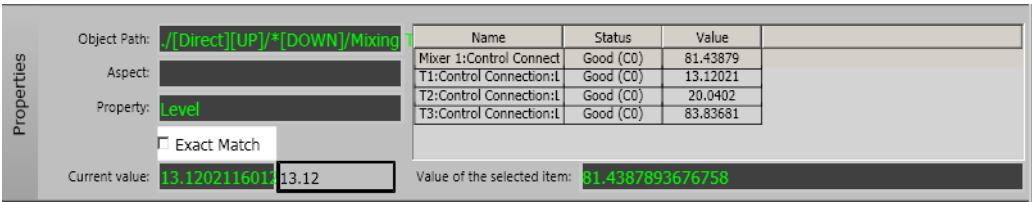

Figure 175. Properties
3. Drag and drop **Text** primitives (**Toolboxes > Graphic Primitives**) into the edit panel. Label the primitives as **Object Path**, **Aspect**, **Property**, **Current Value**, and **Value of the selected item** as shown in Figure 175.